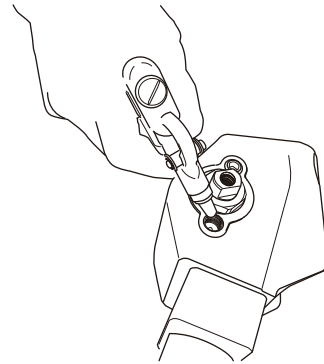

Fig. 4
- d. Use air to remove dust from the hexagon socket plug and the fixing part of it. (Fig.4)